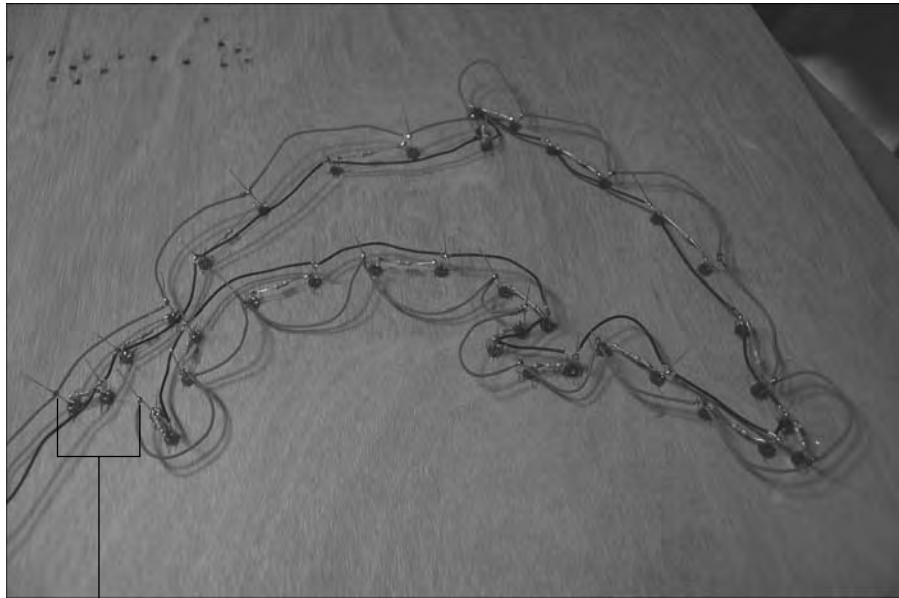

Figure 10-20:
11. Connect the long leads on every other LED to short lengths of 20 gauge red wire, as shown in Figures 10-20 and 10-21.
Figure 10-20 shows a gap where no red wire is strung across the tail of the dolphin. One of the LEDs at the tail with a long lead has only one red wire attached; the other has a 2' 20 gauge red wire attached, which you connect to a terminal block on the breadboard in upcoming Step 20.